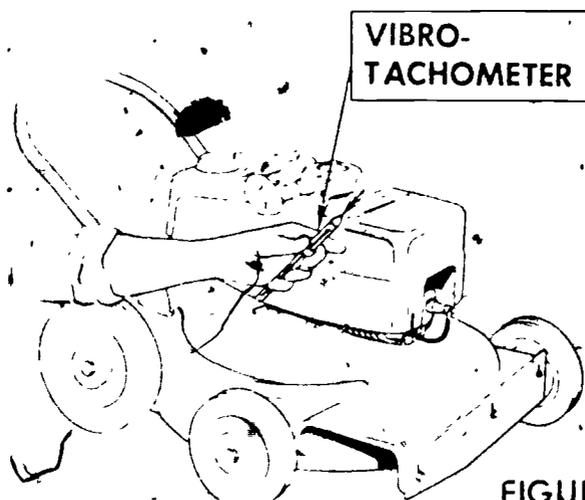

FIGURE 3
- J. Check engine low idle speed with tachometer while throttle control is in closed position (Figure 3)